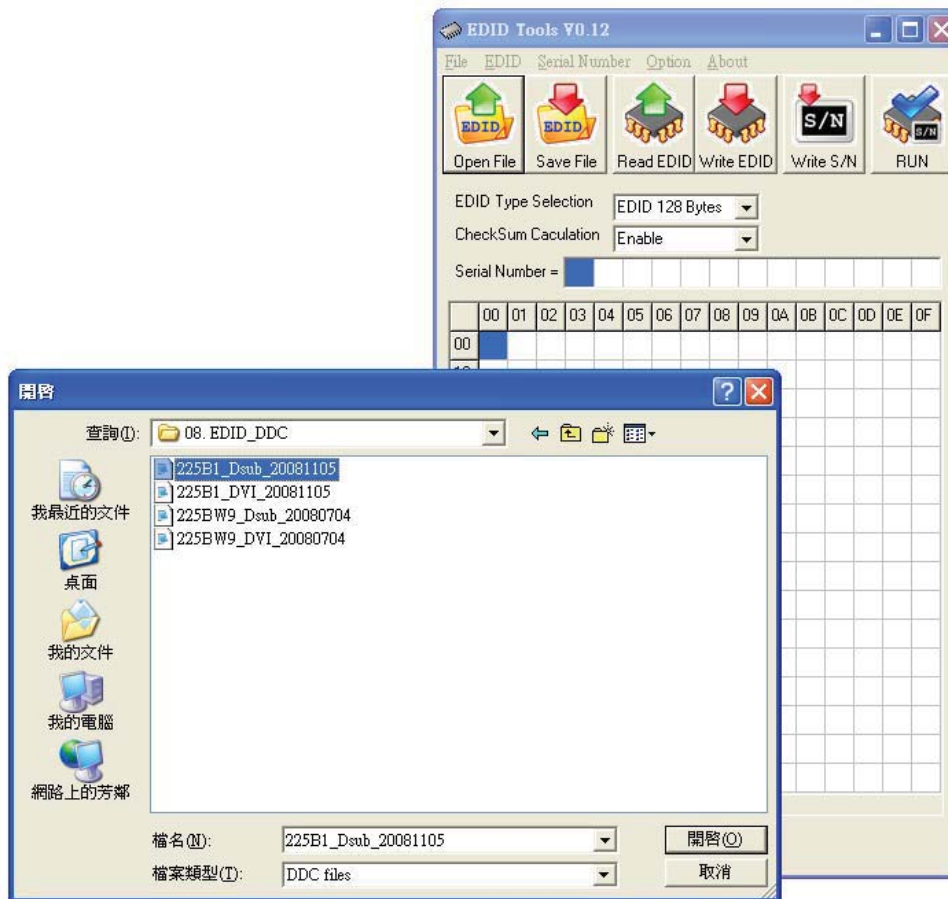

Fig.5
Step 2: Press “Open File” then choose LCD_Analog.ddc or LCD_DVI.ddc as shown in Fig. 5 .